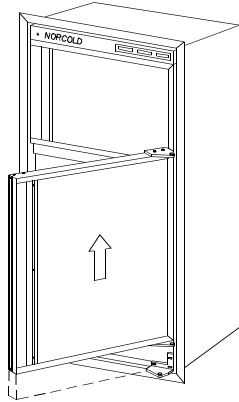

Figure 14
- 4 Remove the lower door by opening it slightly and pulling the top of the door away from the refrigerator. Allow enough room so the door can be lifted up and off of the bottom hinge pin shoulder (See Figure 14). Be sure to save the hinge plates along with the spacer used in the middle hinge bracket, for reassembly later. (See Figures 19A, 19B, and 19C)